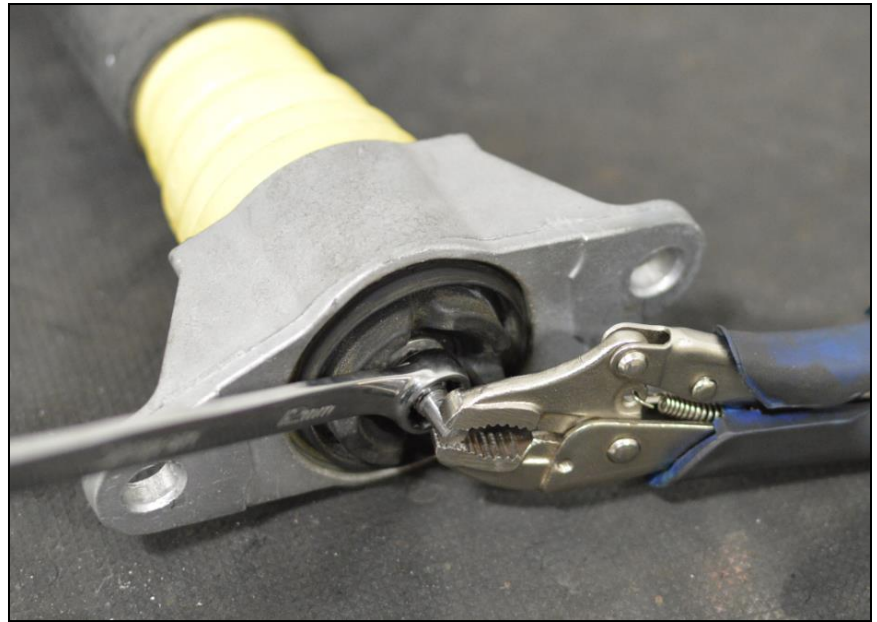

Figure 5a
- a) Place the strut assembly back up into the strut tower. Thread on the three (3) supplied nuts and tighten to 37-43ft-lbs (Figure 5a).
- a) Use a 12mm wrench and vise grips to remove the top hat from the OE rear shock as shown in **Figure 5a**.